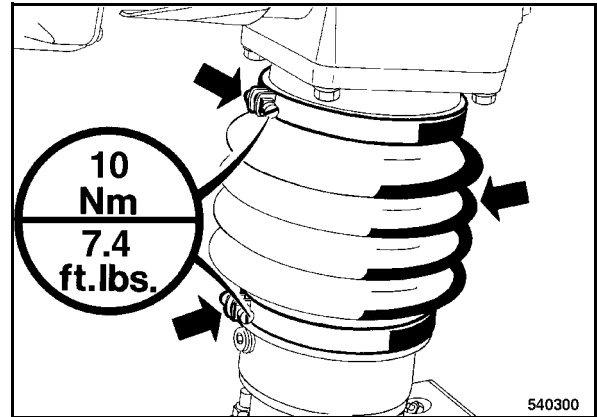

Fig. 32
- Check the hose clamps for tight fit (Fig. 32).